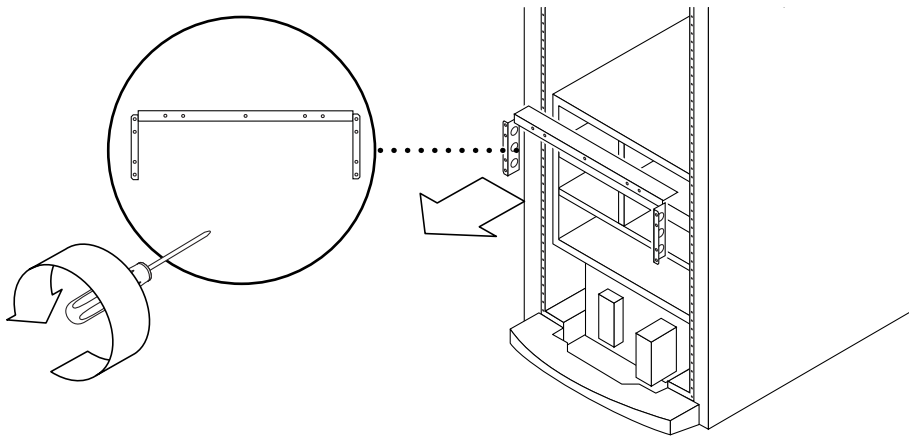

FIGURE 12-31 Removing the Clamp—Sun Fire 3800 System
10. If the Sun Fire 3800 system is installed in a cabinet, remove the clamp (FIGURE 12-31).
6. If you are replacing the Sun Fire 3800 system in a cabinet, install the clamp (FIGURE 12-31).